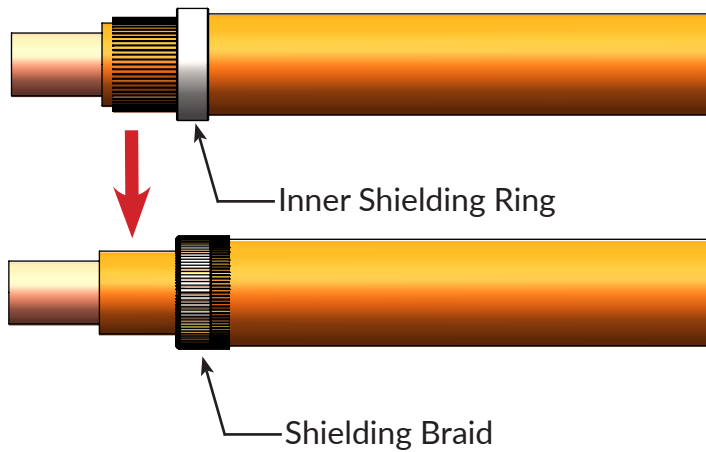

Figure 5
4) As figure 5 shown, move the inner shielding ring align with the left surface of outer jacket of the cable, fold back the shielding braid to cover the outer surface of the inner shielding ring: